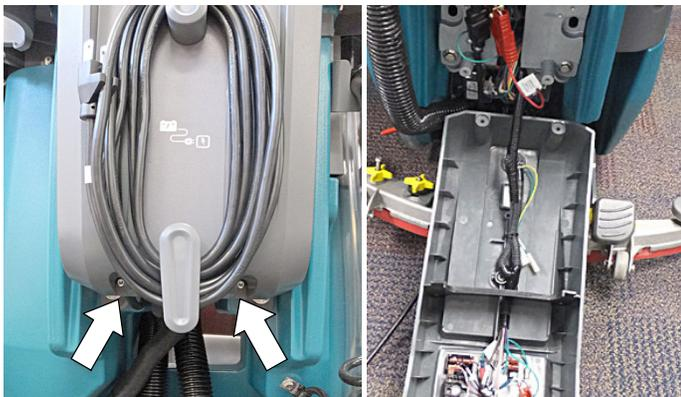

Fig. 1
2. Remove the two lower torque screws at bottom of control console and carefully lower console cover (Figure 1)